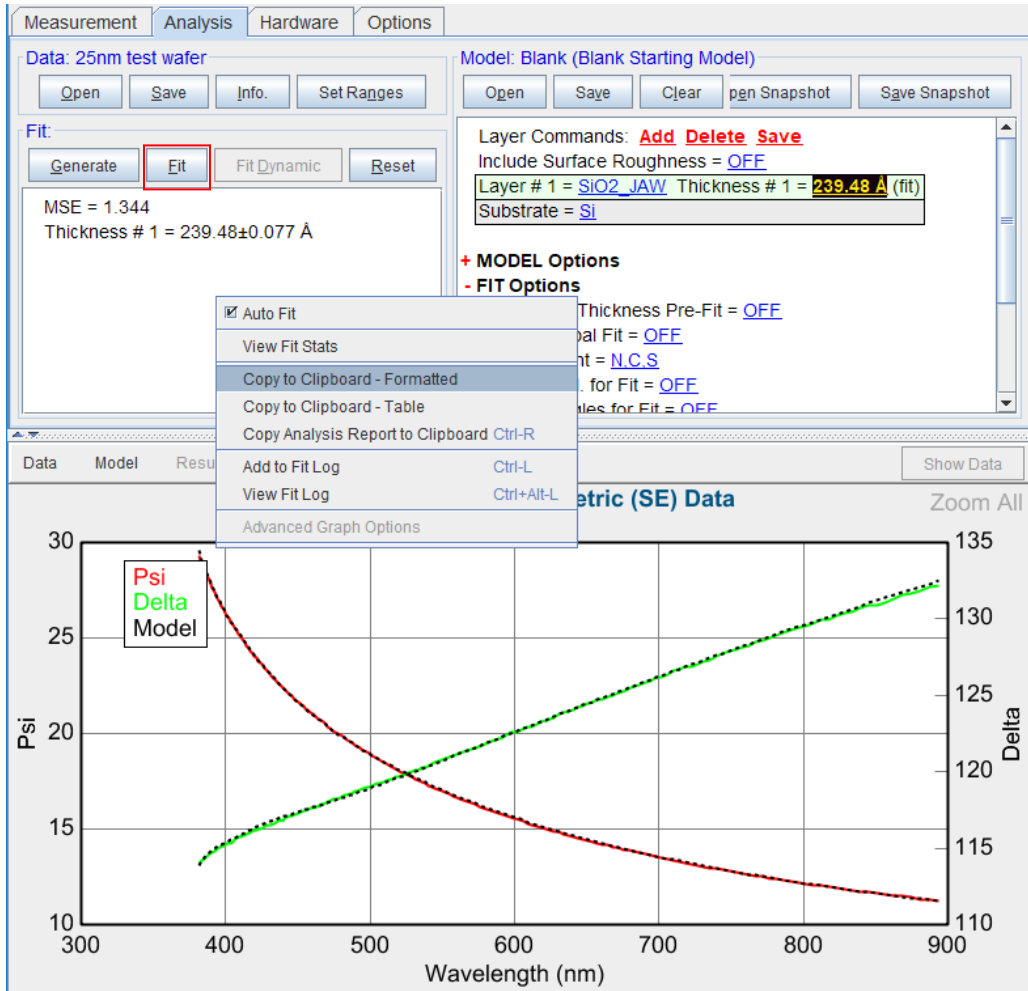

Figure 8: fit the curve and save the result.
- 8) Click 'Fit' under 'Fit' (Figure 8). The curves will be fitted and the results will be displayed. The parameter Mean Squared Error (MSE) is used to examine how well the model data fits the experimental data. The lower the MSE value, the better the data fit. A value below 3 is considered excellent, below 20 is good.